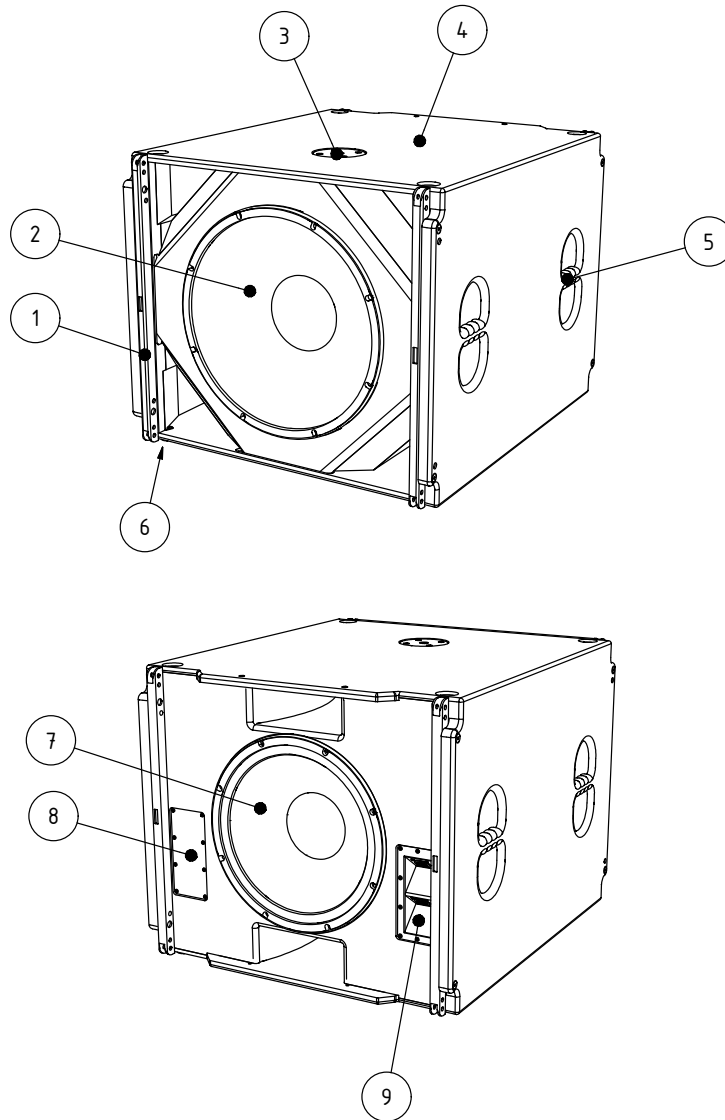

Figure 2.1 - Overview
Make sure that the maximum load of 50kg / 110lbs for the M20 pole mount flange is not exceeded! Figure 2.1 – Item 2.
The M20 pole mount flange (figure 2.1- item 2) is not designed for side forces once mounted – do not apply any pressure from the sides.
Please note that only centered loads are allowed to be placed on the M20 pole mount flange – figure 2.1 – Item 2.
Please note that the VERAS33 loudspeakers must be mechanically correctly connected with each other. This may only be done via the front and rear rigging tracks (see figure 2.1 - pos.5) and additional box link set BLS!